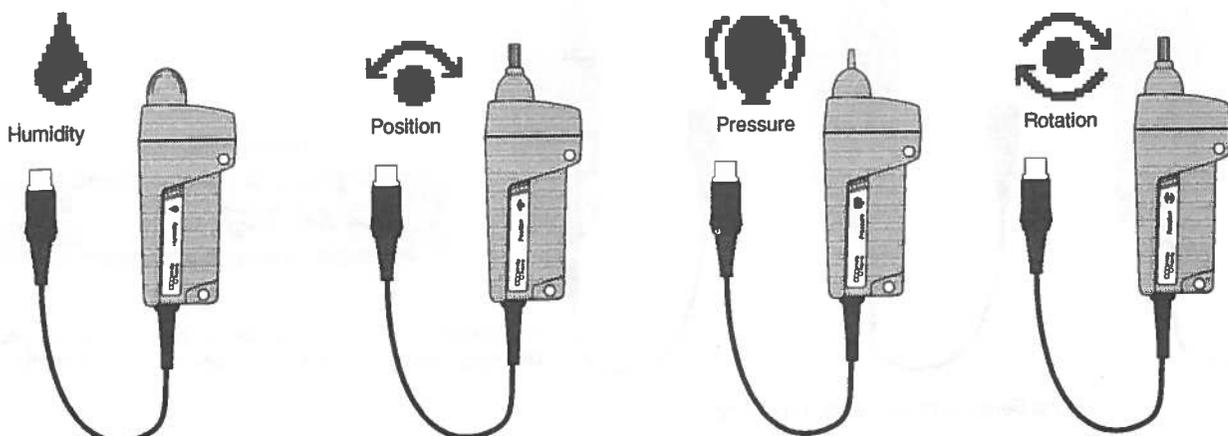

Fig. 2 - Other sensors in the First Sense range
**Other sensors** in the First Sense range (see Fig.2), but not included in the basic kit are: